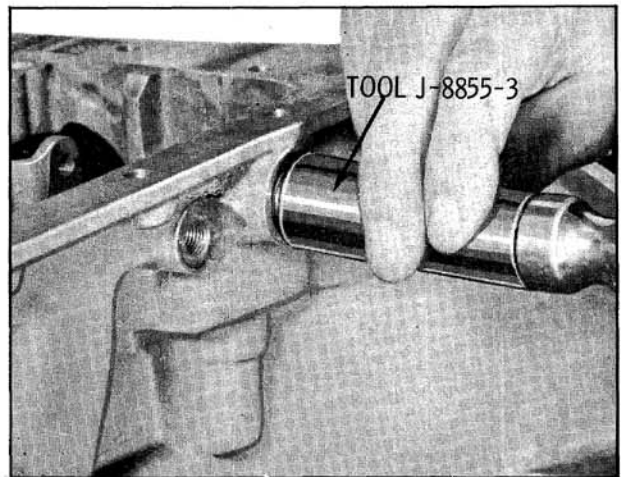

Fig. 6-454 Removing Lock Plate Screws
1. Remove three planet pinion shaft lock plate screws and lockwashers. (Fig. 6-454)